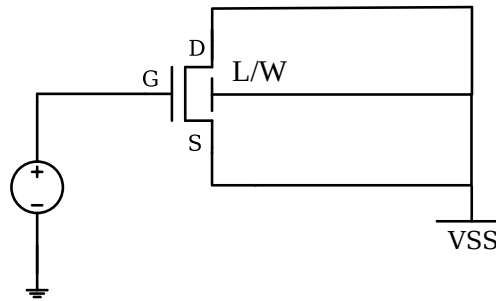

Figure 8
a. For the configuration shown in Figure 8, by tracking the charge delivered by the ideal voltage supply as it switches from 0V to 1V, calculate the effective capacitance of the MOSFET gate. Perform the charge measurement with HSPICE measurement statements, and use Silicon Explorer to validate the results.